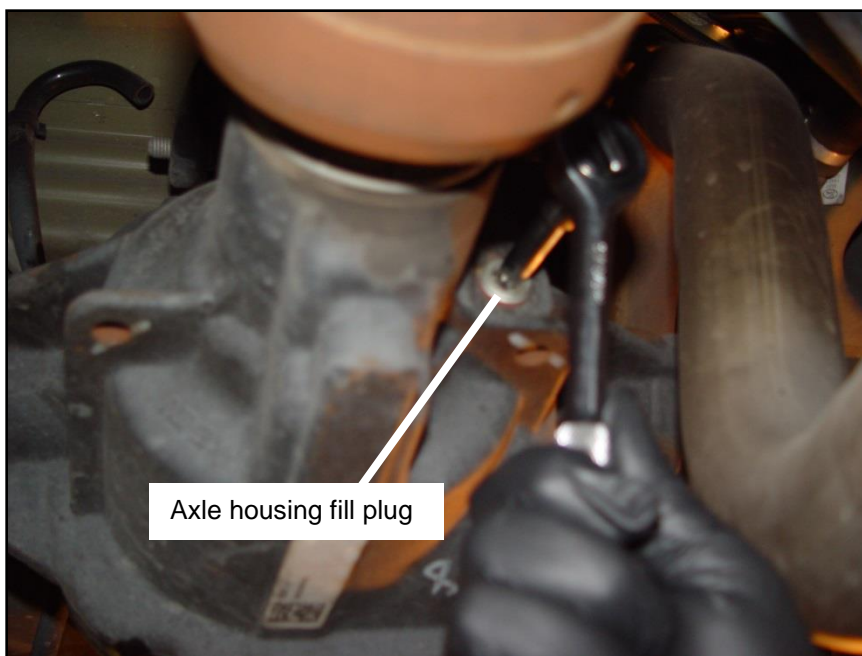

Figure 1
STEP 3. Remove the axle housing fill plug with a 3/8" square ratchet and extension (**See Figure 1**).